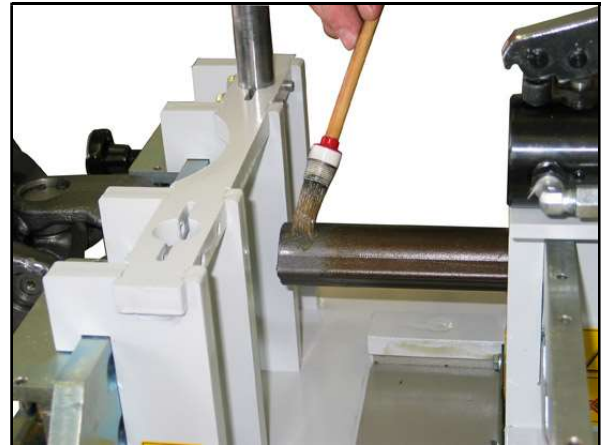

Fig. 23
3. Grease the protrusion of the profile tube (Fig. 23).
4. Move the profile tube (1) by hand in the direction of the inboard yoke (2) so that the profile tube securely engages in the inboard yoke.
7. Move the mounting carriage (3) forward
- until the bore holes (4) and (5) of the profile tube (1) and the inboard yoke (2) are aligned.
- until the profile tube (1) engages flush in the receptacle of the inboard yoke.
10. Undo the clamping lever screws (6).
11. Keep turning the threaded rod until the counter bearings (7) and the clamping lever (8) release the inboard yoke (2).